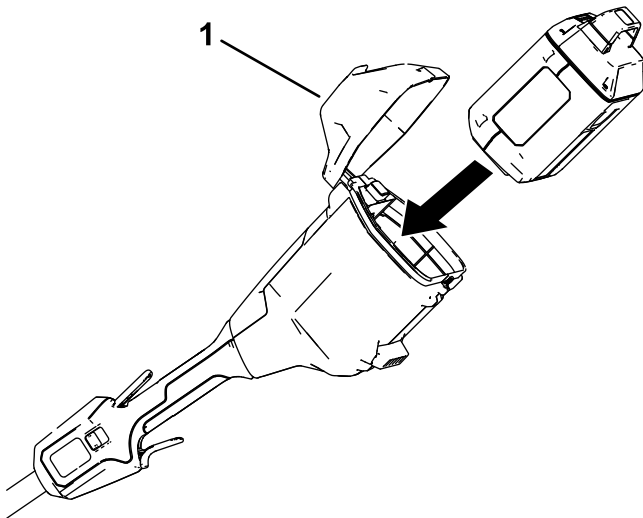

Figure 9
2. Open the battery lid (Figure 9).
3. Align the cavity in the battery pack with the tongue in the battery compartment (Figure 9).
4. Push the battery pack into the battery compartment until the battery locks into the latch (Figure 9).